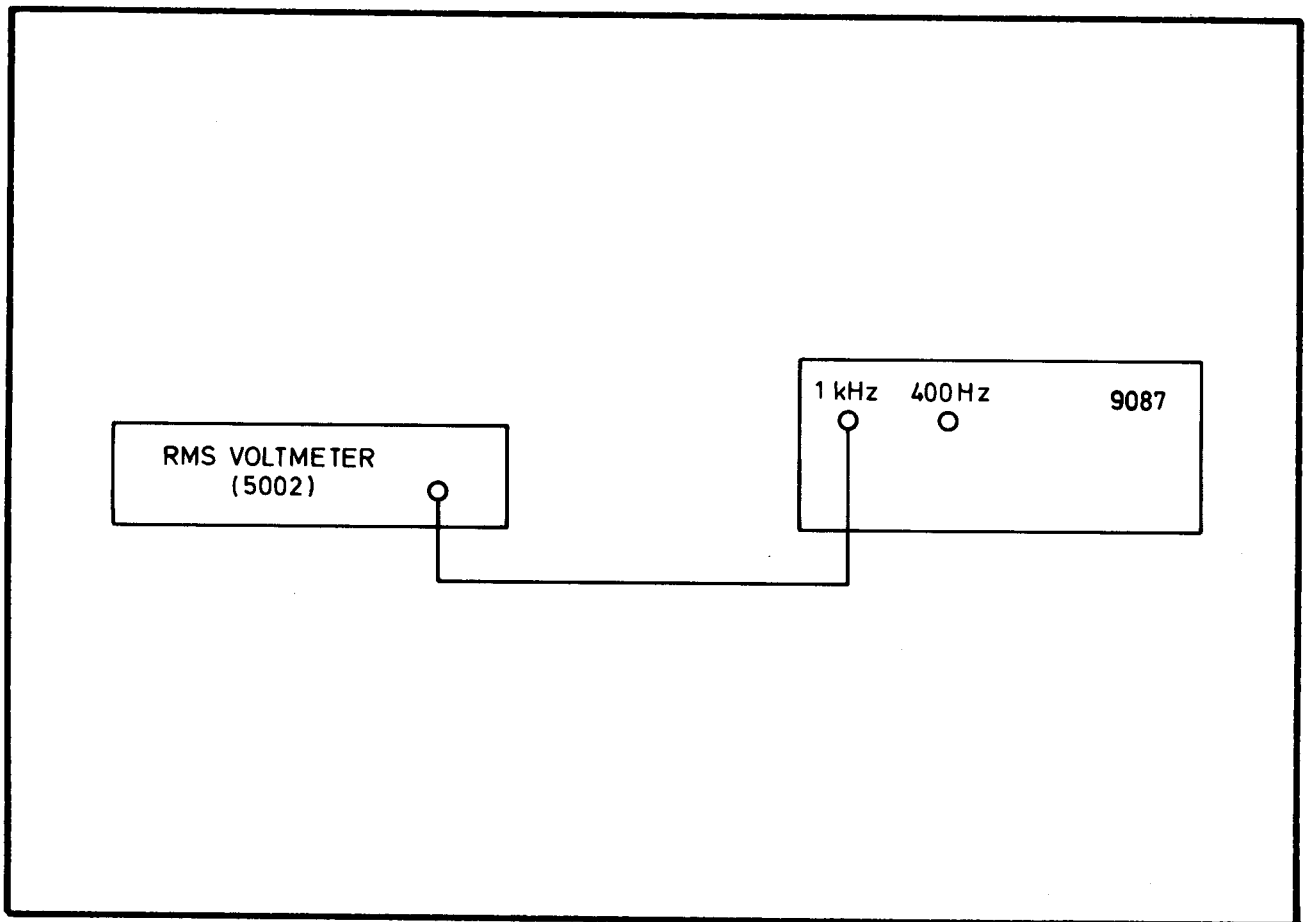

Fig. 7.28 Connections for Output Level Verification
- (a) Connect the test equipment as shown in Fig. 7.28.